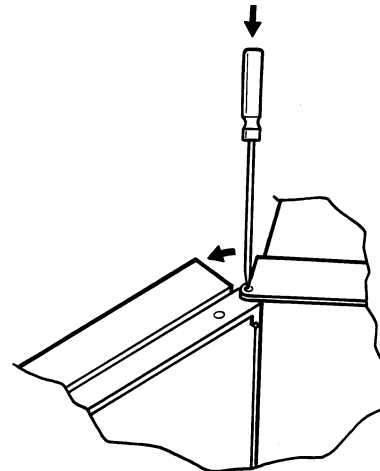

Figure 1b Door hinge pin removal
- 4 Using a small screwdriver, or similar, press down on the sprung pin at the top of the door as shown in figure 1b.